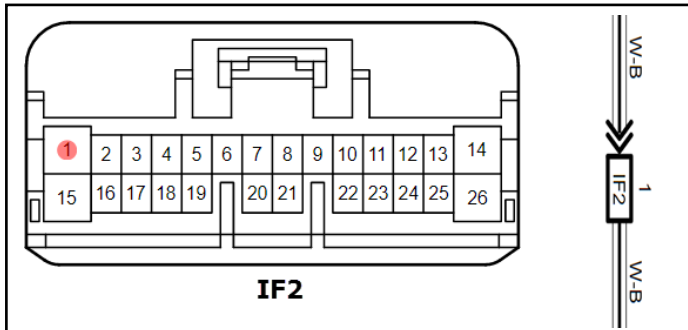

Figure 30
40. Using a Blue T-tap, connect the Black wire from the foot-well harness to the White/Black wire in the IF2 connector in the driver sidekick panel. See Figure 30.